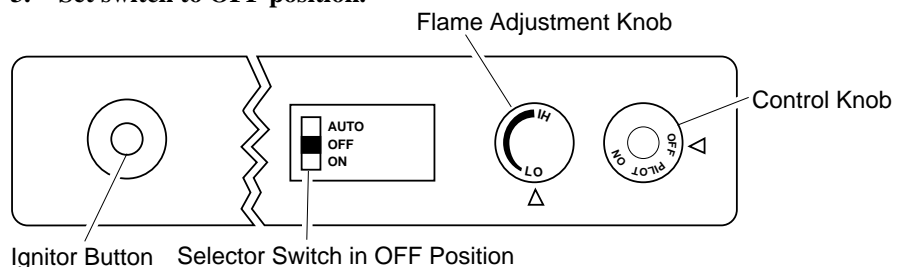

Figure 18 - Control Knob and Ignitor Button Location (Shown as Supplied, No Control Options)
- Wait five (5) minutes to clear out any gas. Then smell for gas, including near the floor. If you smell gas, **STOP!** Follow "B" in the safety information. If you don't smell gas, go to the next step.
- Press in and turn control knob counterclockwise  to the PILOT position. Press in control knob for five (5) seconds (see Figure 18).